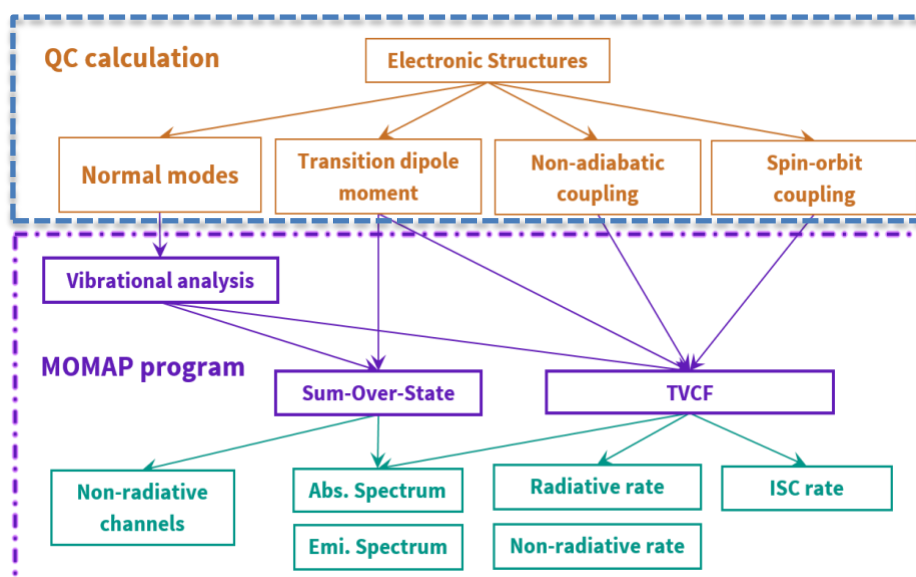

Fig. 2 Dependencies and relationships between MOMAP and QC calculations
As we know, the photophysical properties are tightly related to the various properties of ground and excited states, which are the basis to carry out calculations in MOMAP. The various module dependencies on common quantum chemistry (QC) calculations are shown in Fig. 2.